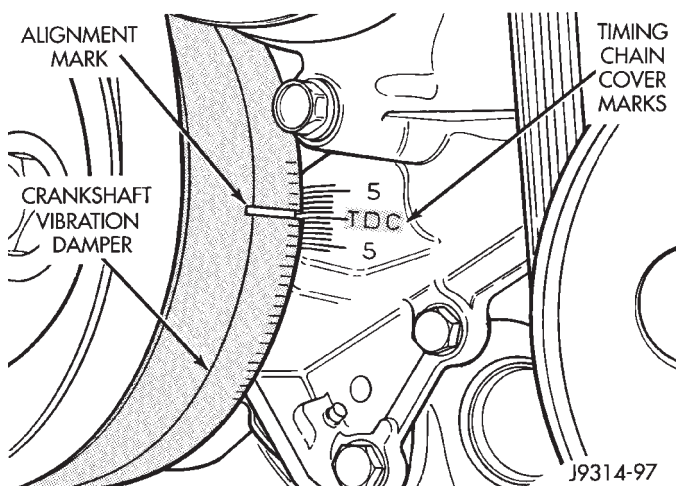

Fig. 56 Damper-To-Cover Alignment Marks—Typical
(1) Remove air cleaner assembly.
(2) Disconnect negative cable from battery.
(3) Remove distributor cap from distributor (two screws).
(4) Mark the position of distributor housing in relationship to engine or dash panel. This is done to aid in installation.
(5) Before distributor is removed, the number one cylinder must be brought to the Top Dead Center (TDC) firing position.
(6) Attach a socket to the Crankshaft Vibration Damper mounting bolt.
(7) Slowly rotate engine clockwise, as viewed from front, until indicating mark on crankshaft vibration damper is aligned to 0 degree (TDC) mark on timing chain cover (Fig. 56).
Rotate crankshaft in a clockwise direction, as viewed from front, until number one cylinder piston is at top of compression stroke (compression should be felt on finger with number one spark plug removed). Then continue to slowly rotate engine clockwise until indicating mark (Fig. 56) is aligned to 0 degree (TDC) mark on timing chain cover.